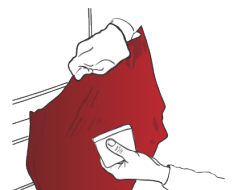

Figure 26
- › If necessary, lift the film, stretch it again and completely wrap the convex surface, then apply it. (FIG. 26)